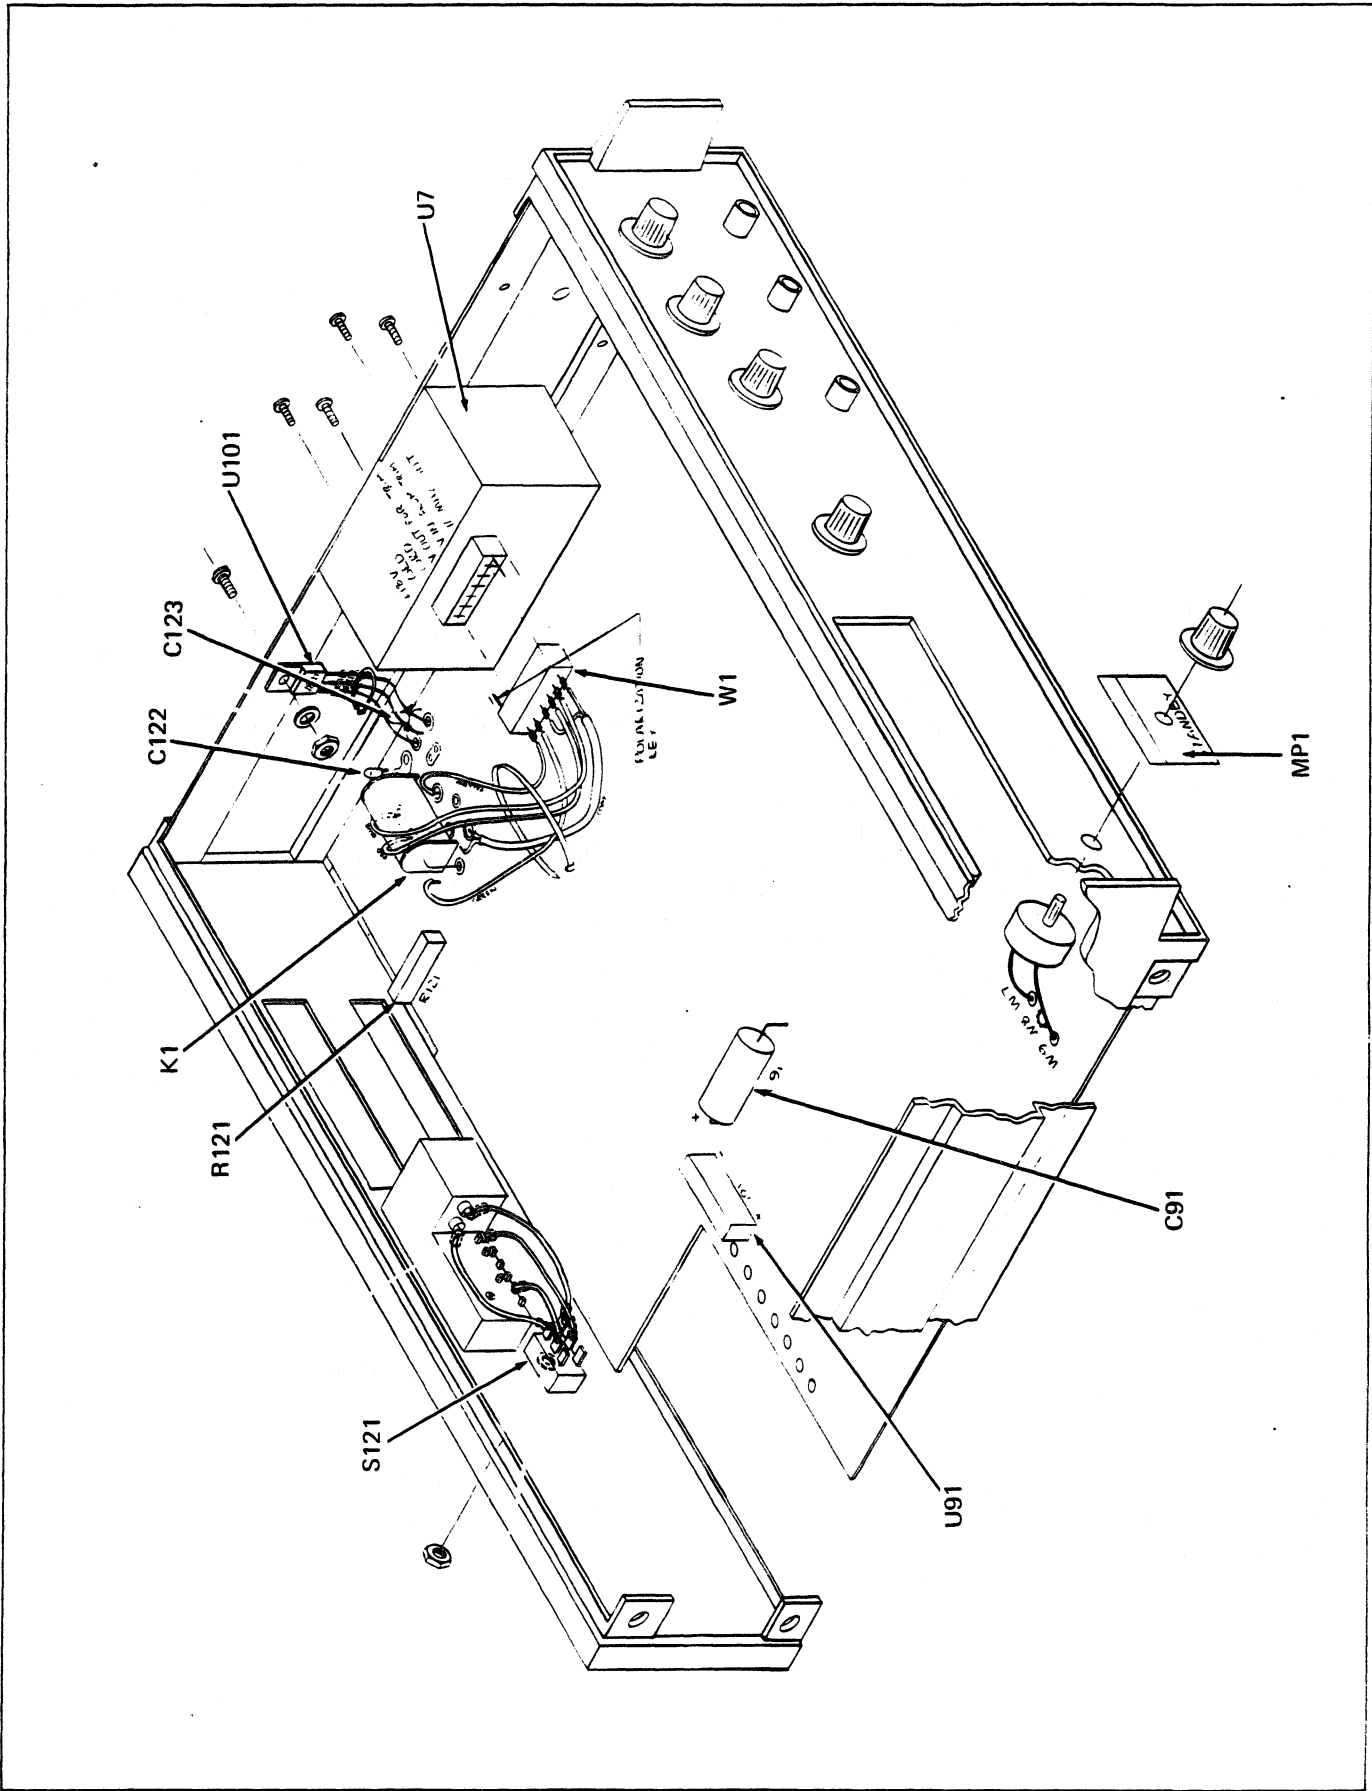

Figure 610-1. -10 Option, Oven-Stabilized Time Base
-10	OVEN-STABILIZED TIME BASE, OPTION -10 FIGURE 610-1